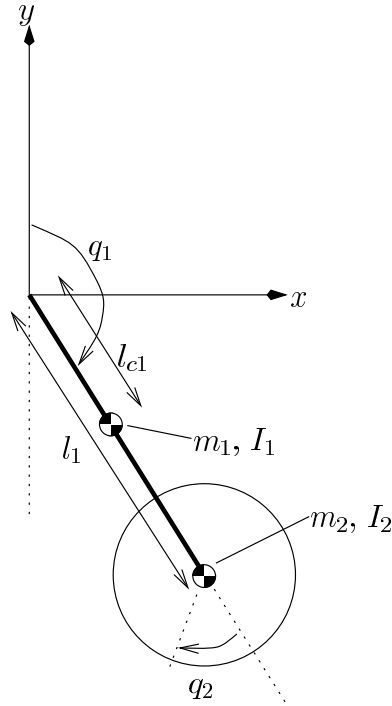

Figure 2: A robot from the problem 3: inertia wheel pendulum
3. The two link planar robot – the so-called inertia wheel pendulum – depicted on Fig. 2. It has two revolute joints, while the center of mass of